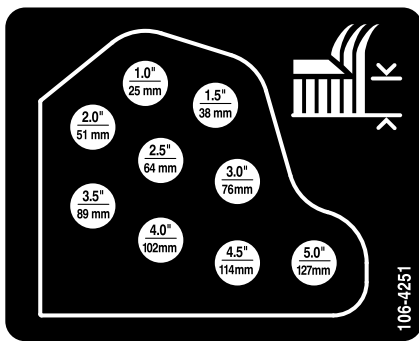

Figure 17
6. Mount the height-of-cut chains to the desired height-of-cut hole (Figure 17) with the clevis pin and hairpin cotter.